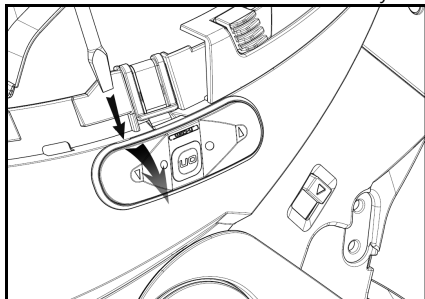

Fig. 20
- Remove the keypad from the shell, as shown in fig. 20.